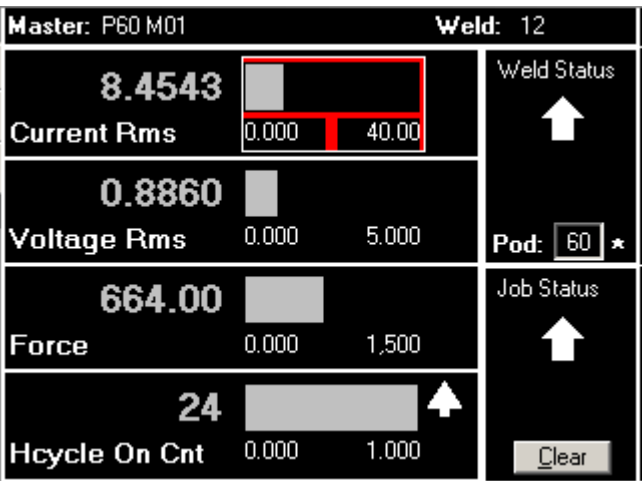

Figure 5-40 Rejected weld
- 3. Make a weld using the new weld schedule and observe the monitor screen. You should see a blinking arrow in the **Weld Status** box, as shown in figure 5-40. If one of your displayed parameters is **Hcycle On Cnt**, you'll also see a small blinking arrow next to the bar graph.